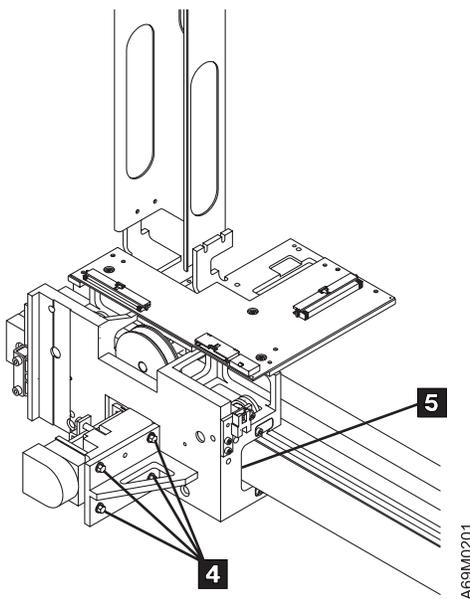

Figure 154. X-Axis Assembly (Motor) – Early Style
3. Refer to Figure 154 on page 658. Remove the four screws **4** to remove the motor and its mounting bracket.
Note: Because of insufficient access, you may not be able to check the pulley adjustment using your finger. From the right side, slide an end wrench into the channel (shown at **5** in Figure 154 on page 658), between the X-axis casting and the front of the X-axis rail. Use the end wrench to press on the belt. Observe the travel of the end wrench to determine if belt tension is correct.